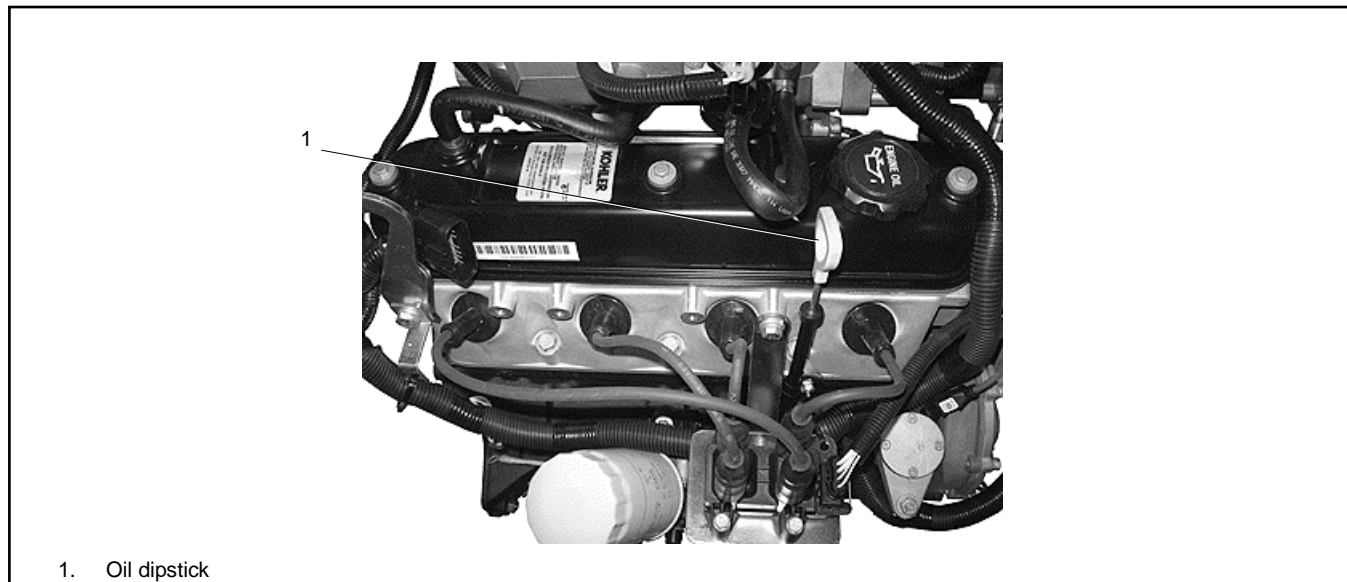

Figure 17 Oil Dipstick Location
2. Pull out the oil dipstick. See Figure 17.